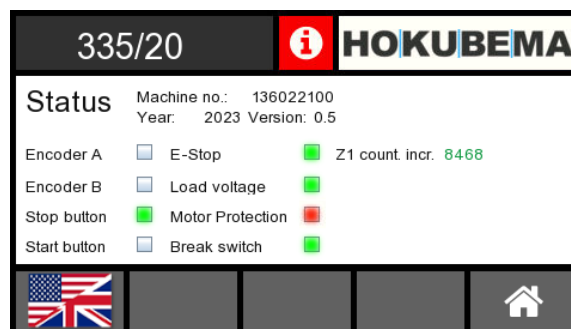

Figure 34: Status window for "motor protection" fault
- At the same time, a warning or error message corresponding to the cause appears on the screen (see example "Motor protection" in \Rightarrow Figure 34).